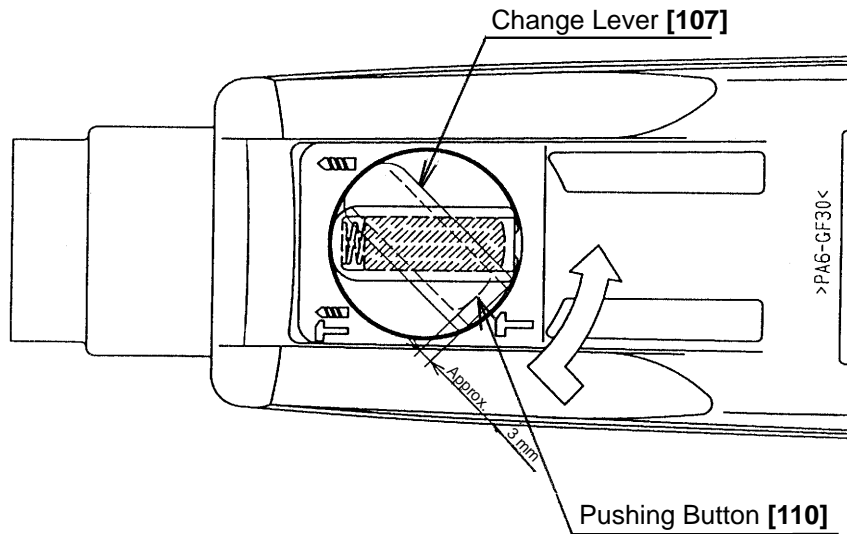

Fig. 15
(2) Disassembly of the change lever
- As shown in Fig. 15, pressing the Pushing Button **[110]** hard, turn the Change Lever **[107]** 45° counterclockwise from the "striking only" position (T mark). Pry out the Change Lever **[107]** at this position.